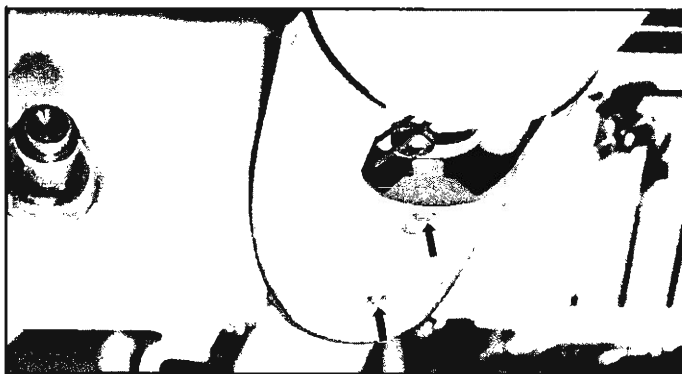

Fig. 13—Instrument Panel Cover Screws
- Loosen instrument panel cover by removing retaining screws (fig. 13).